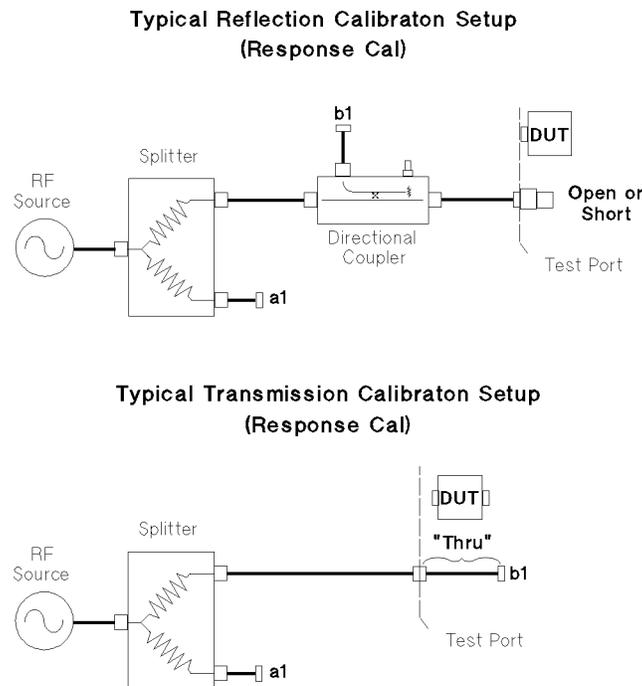

Figure 5-4. Calibration Setup for Response Cal
A Response calibration requires a single standard class to measure the selected reference path's frequency response (amplitude and phase). To perform a calibration for reflection measurements, you can use an open or a short. For transmission calibration use a "thru" (a short cable). Refer to Figure 5-4.
4. At the test port (see Figure 5-4):
For reflection calibration you need to use an open or a short. For transmission calibration use a “thru” (a short cable). Refer to Figure 5-4.
5. At the test port (see Figure 5-4):